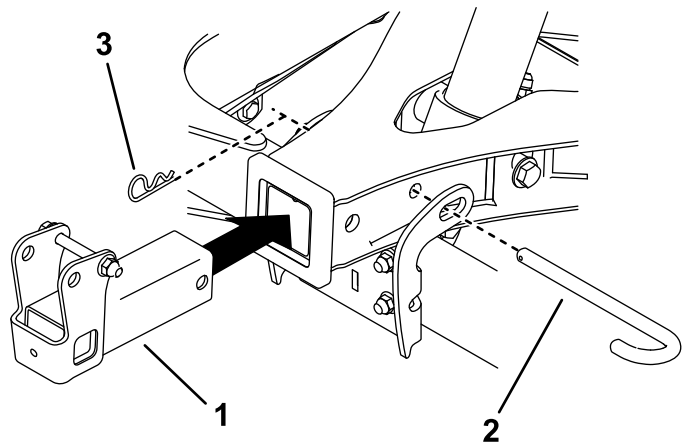

Figure 11
11. Remove the hitch pin and cotter pin from the A-frame and use it to install the hitch receiver (Figure 11). Ensure that the pin locks the A-frame to the cross tube.